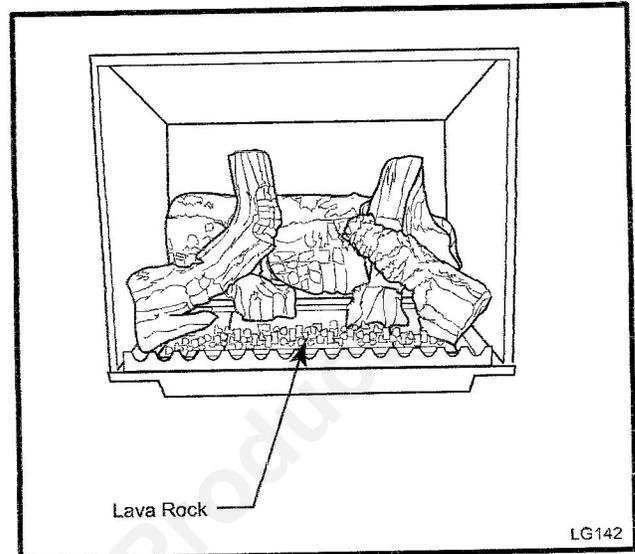
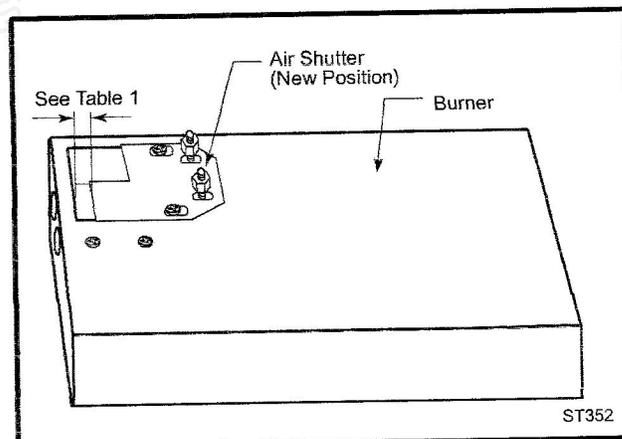

Fig. 42 Completed log installation.
Fig. 46 Air shutter in new position.
5. Loosely sprinkle the lava rocks directly on top of the burner in front of and between the decorative grate and the right and left logs. Use the lava rock to cover brackets on the burner. (Fig. 42)
8. The air shutter is located on the bottom of the burner to the left. (Fig. 42) Unfasten the two nuts holding the shutter in place. The shutter is shipped backwards to allow the fully open position. Reassemble the shutter to allow the rear injector air inlet to close from fully open to a minimum 1/2" opening. See Table 1 for rear injector air inlet minimum openings. (Fig. 46) You may have to try more than once to find the correct air shutter opening for best results depending on your altitude.